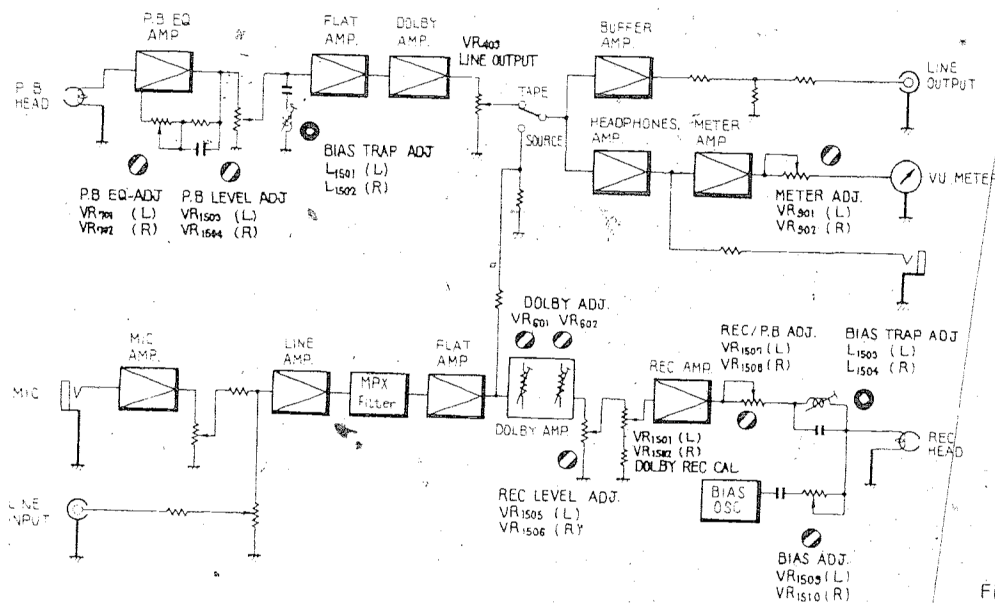

Fig. 24
- The places to be checked and/or adjusted are shown in the block diagram in Fig. 24.